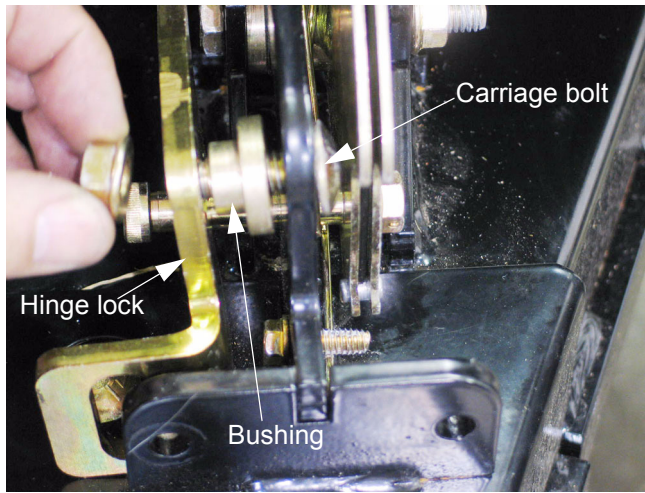

Figure 11.13
11.13. The hinge lock and the bushing that it pivots on can then be removed from the deck using a 9/16" wrench. See Figure 11.13.